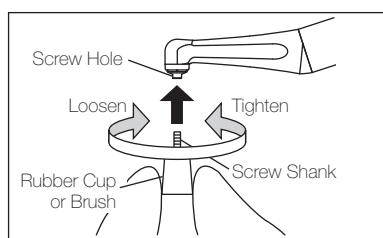

Fig. 2
2) Turn Rubber Cup/Brush in a clockwise direction to fix the screw shank. (Fig. 2)
Perform a reverse procedure of Mounting. Turn the Rubber Cup/Brush way of "Loosen" direction. (Fig. 2)